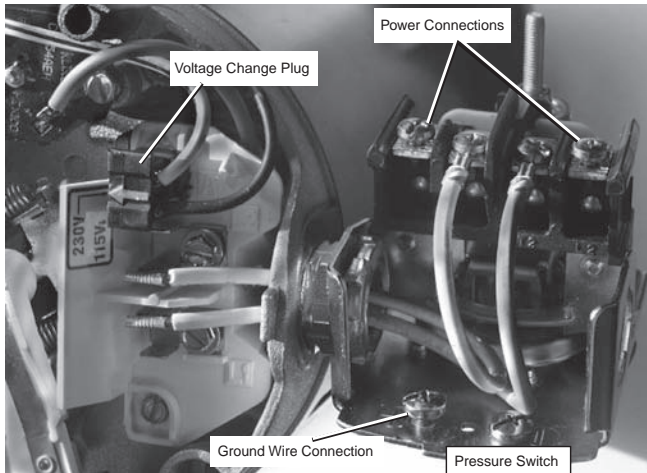

Figure 6: Voltage set to 230 volts, Plug Type
4. Attach the incoming power leads to the two outer screws on the pressure switch as shown in Figure 6.
5. Attach the ground wire to one of the grounding connections, shown in Figure 6.
- Step 1. Connect the ground wire first as shown in Figure 6. The ground wire must be a solid copper wire at least as large as the power supply wires.
- Step 4. Connect the power supply wires to the pressure switch as shown in Figure 6.